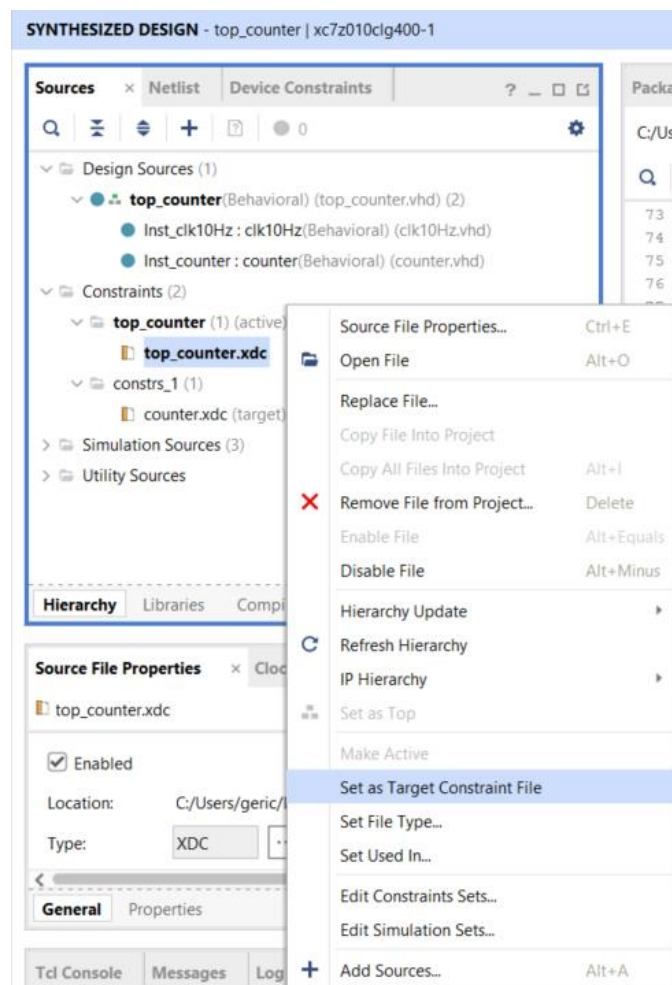

Figure 46
16. Then, in the **Sources** window, select **top_counter.xdc** and make it the target constraint file by right-clicking and choosing **Set as Target Constraint File** (Figure 46)